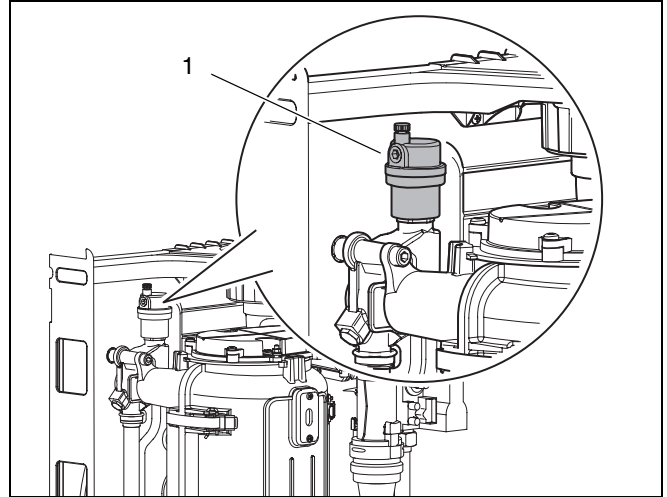

fig. 36 Automatic air vent
- Loosen the automated air vent one turn (fig. 36).